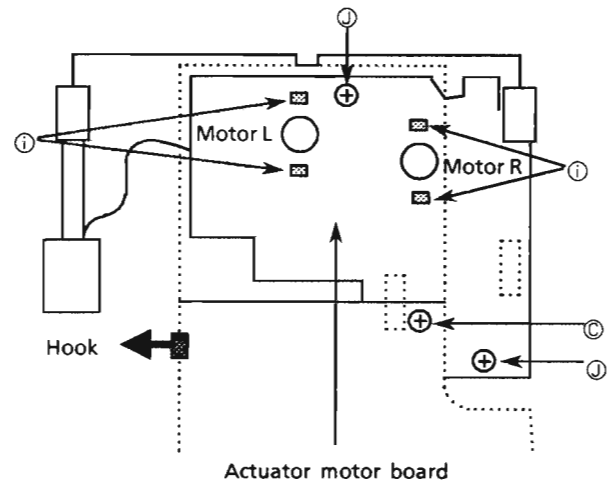

Fig. 39
1. Unsolder 4 soldered point ① for both motors. (See Fig. 39.)
2. Remove a screw ③ securing the CD servo board. (See Fig. 39.)
4. Remove 2 screws ① securing the actuator motor board. (See Fig. 39.)